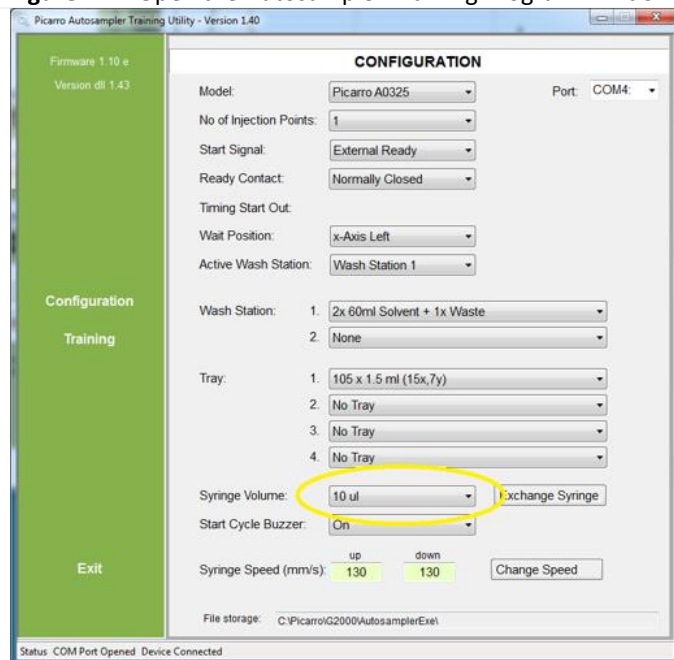

Figure 122. Select Syringe Volume for Red Syringe (10uL).
STEP 4 | Under Syringe Volume, ensure “10 ul” is selected from the drop-down options if using a 10uL Syringe (Figure 122).